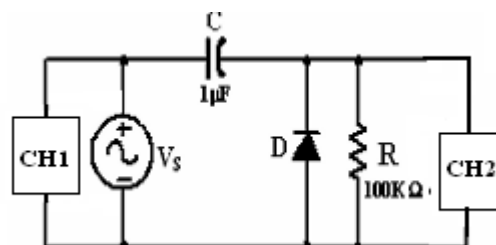

Figure 3
- 1- Construct the circuit shown in Figure 3.